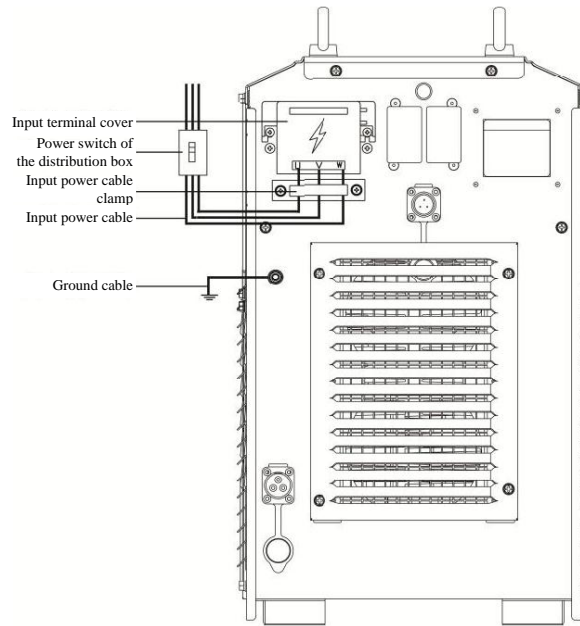

Figure 2-7 Schematic diagram of connecting the power cable on the power input side
- 2) Firmly connect one end of the input power cable to the power input terminal using the power cable clamp. Connect the ground cable to the M6 grounding threaded rod on the housing of the welder. See Figure 2-7.